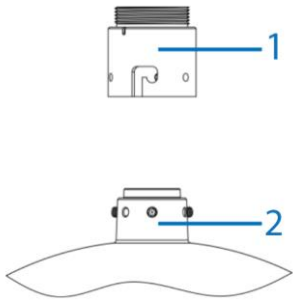

Figure 7
- Securely attach the adaptor ring (1) (Figure 7) to the mount (e.g. wall / pendant mount).
- Route the camera cables through the adaptor ring, pendant cap (2) (Figure 7).